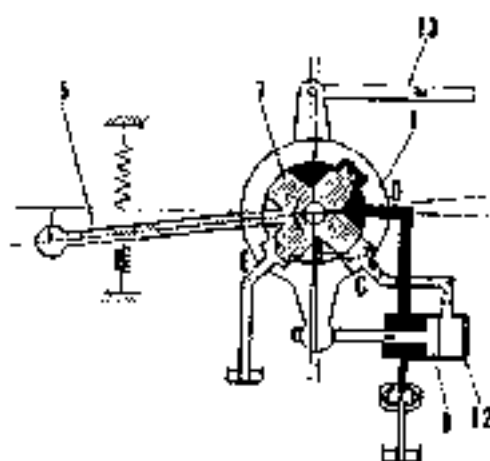

Fig. 2-63
If the handle (6) is moved to make the valve core (7) turn counterclockwise, as shown in Fig. 2-63, the passage between ports B and C is open. The pressurized oil flows to the another side of the cylinder to push the piston (8) and pull the valve sleeve (1). Thus the sleeve (1) also an angle turns counterclockwise, so the linkage (13) makes the changeover valve rod shift some distance. The piston (8) stops immediately because turning of the valve sleeve (1) makes the passage between port B and C close. Just continuously shifting the handle (6) can keep continuous movement.